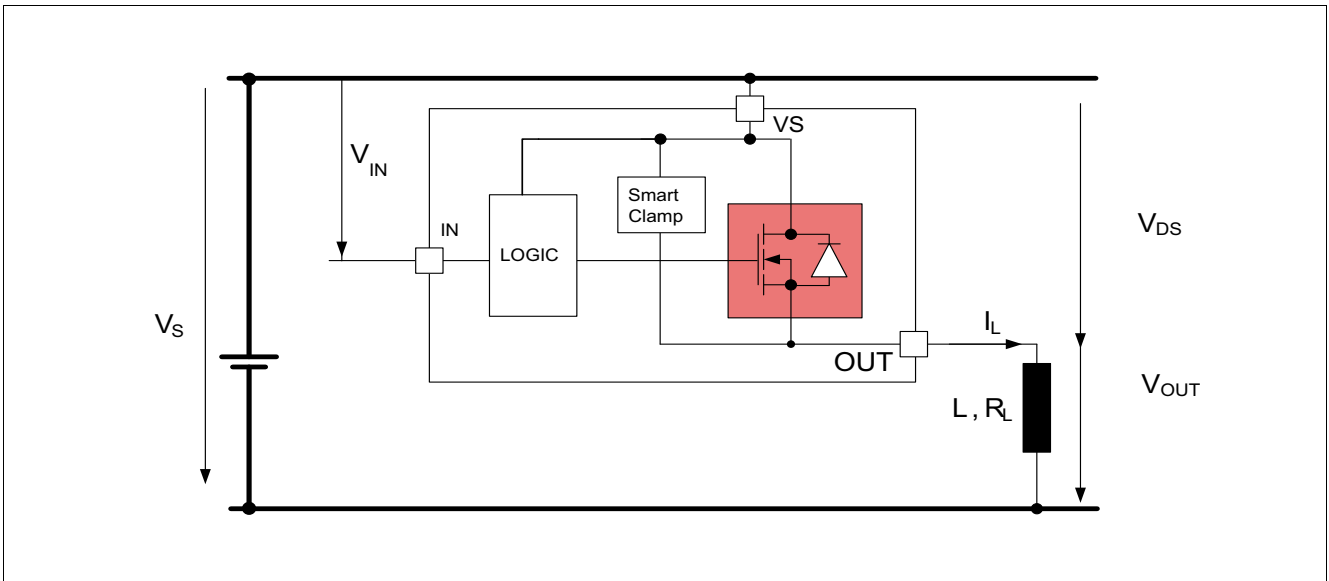
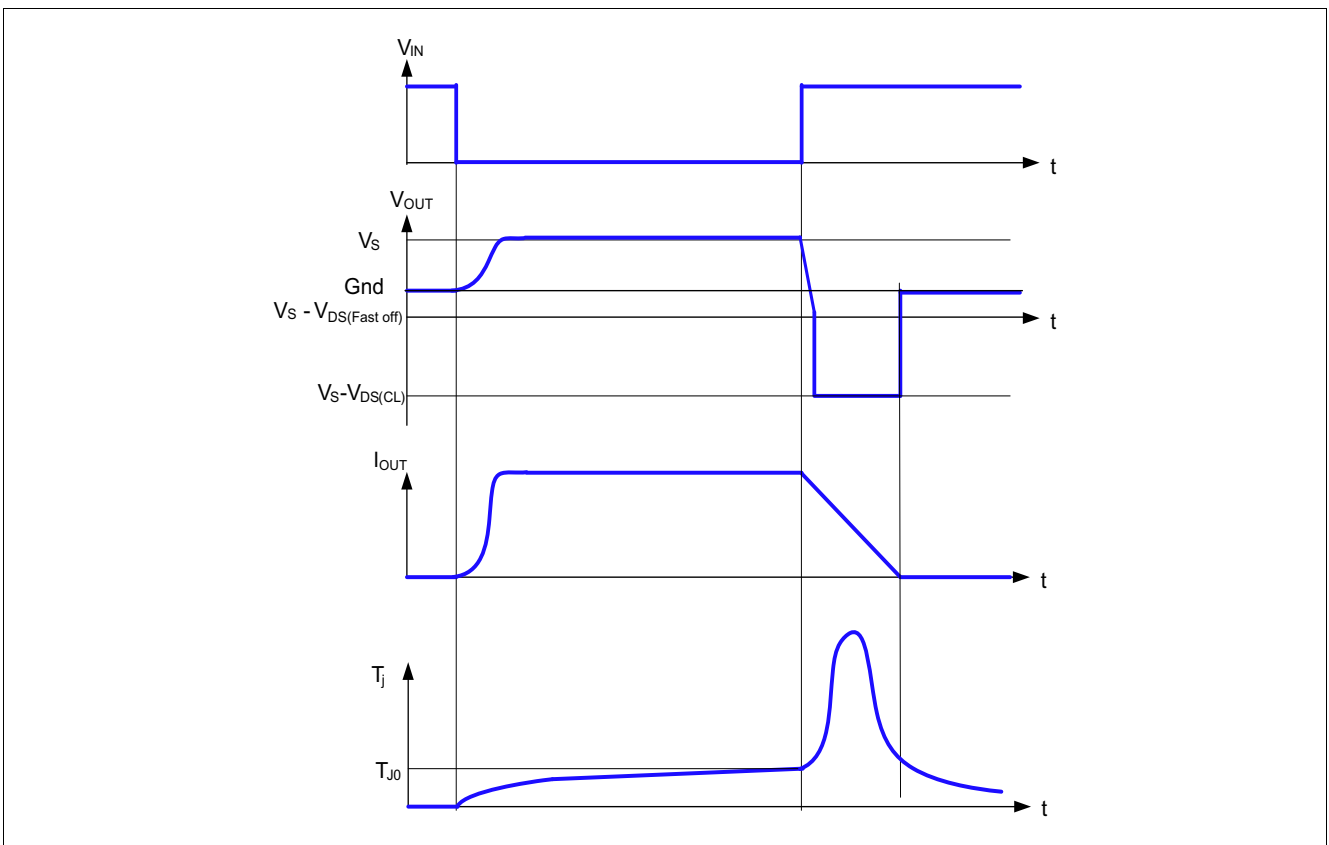

Figure 5-2 Output Clamp
Figure 5-3 Switching an Inductance
When switching OFF inductive loads with high side switches, the voltage V_{OUT} drops below ground potential, because the inductance intends to continue driving the current. To prevent the destruction of the device due to high voltages, there is a Infineon® SMART CLAMPING mechanism implemented that keeps negative output voltage to a certain level ($V_S - V_{DS(CL)}$). Please refer to **Figure 5-2** and **Figure 5-3** for details. Nevertheless, the maximum allowed load inductance remains limited.
- The device is commanded off by applying $V_{IN(L)}$ at the IN pin. During the switch OFF operation the OUT pins' voltage in respect to VS pin drops below $V_{ds(\text{fast off})}$. See Figure 5-3.